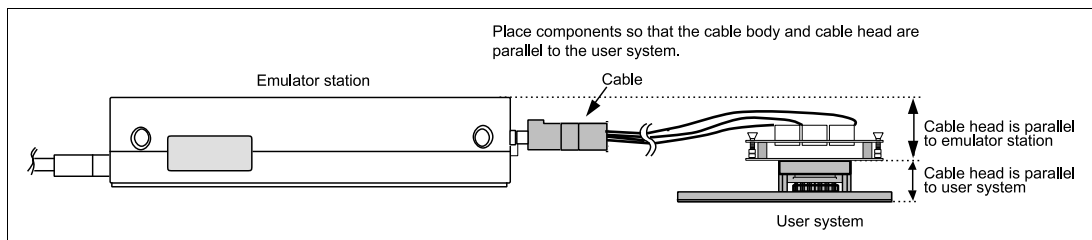

Figure 10 User System Interface Cable Location Example
5. While the emulator station is connected to the user system with the user system interface cable, force must not be applied to the cable head. Place the emulator station, user system interface cable, and user system as shown in the example in figure 10.